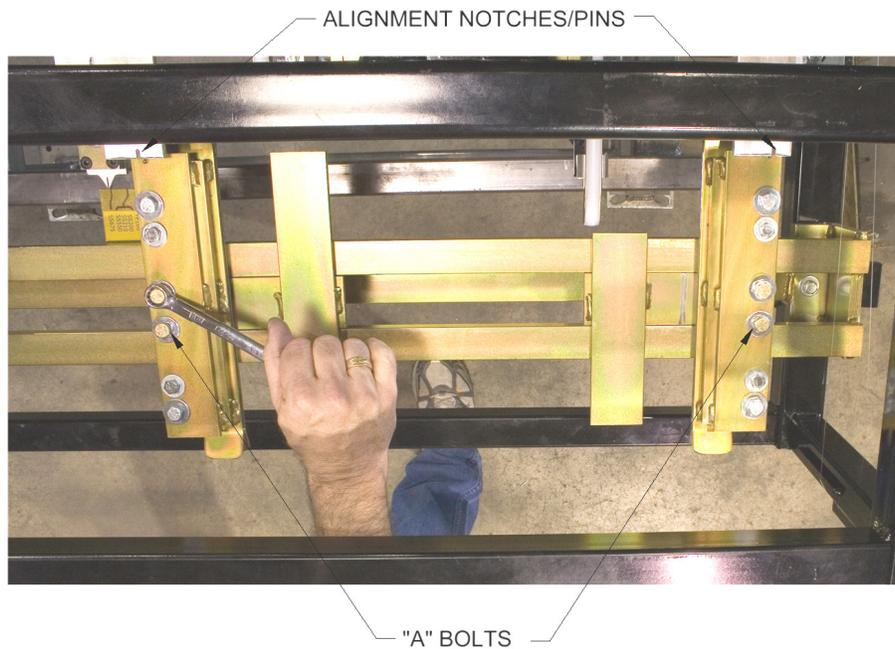

Figure 53: Entry Guide Alignment Notches and Pins
9. Loosen the two "A" Bolts on the Right Entry Guide (Figure 53). Slide the entry guide to the left or right until the alignment pin, located on the end of the top shoe of the entry guide, is directly under one of the notches on the Tooling Rail Marker Plate. Make sure to choose the notch that corresponds to the desired leg configuration as noted on the decal on the top of the marker plate.
11. Loosen the two "A" bolts on the Left Entry Guide (Figure 53).